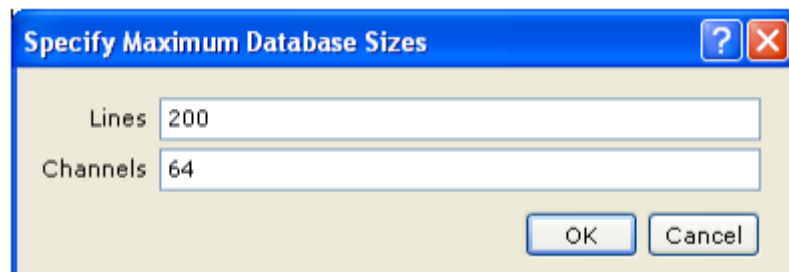

Figure 1.65. – Specify Maximum Database Sizes panel
3. Click the [OK] button. The system displays the *Specify Maximum Database Sizes* dialog, fig. 1.65.